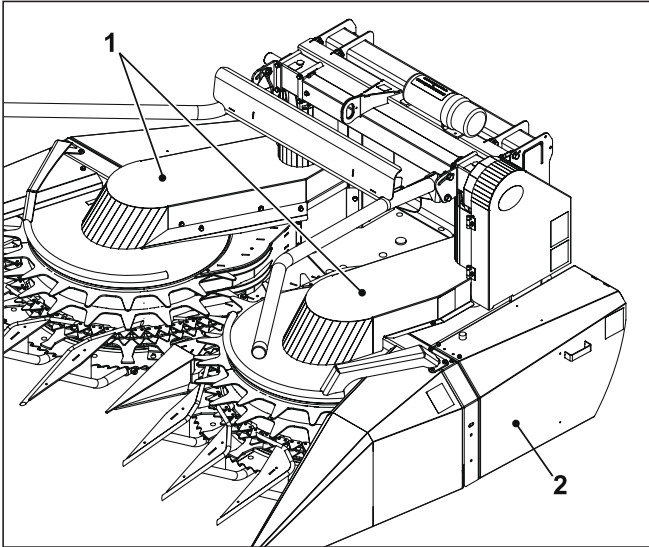

Figure 1 Drive belt guards (1) and drive chain guard (2)
GUARDS AND SHIELDS - FIGURES 1 TO 3
Bolted guards cover the driving belts (items 1 in figure 1).
Hinged guards cover the driving chains (items 2 in figures 1 and 2).